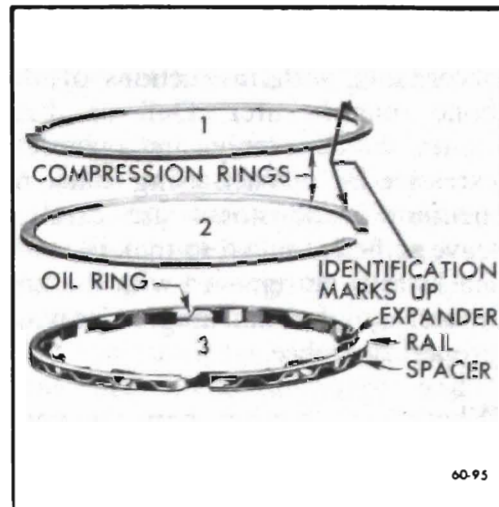

Figure 60-237--Piston Rings (350 Cu In.)
8. Install piston rings as shown in Figures 60-237 and 60-238. Position expander ends over piston pin. Install oil ring rail spacer, and oil ring rails. Position gaps in rails "up" on same side of piston as oil spurt hole in connecting rod. Install compression rings in upper two grooves.